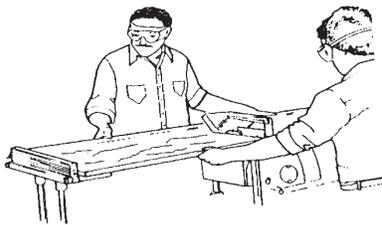

Figure D-10
9. Feed the stock as you would normally. If the stock you're cutting is extremely large — such as a sheet of plywood — get some help. See Figure D-10.